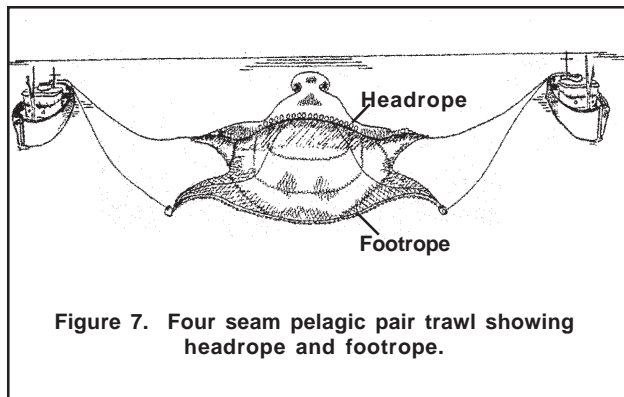

Figure 7. Four seam pelagic pair trawl showing headrope and footrope.
25. HEADROPE: Record, in whole feet, the length of the rope along the top of the net. This information may be obtained from the Captain. See Figure 7.
26. FOOTROPE/SWEEP: Record, in whole feet, the length of the rope along the bottom of the net. This information may be obtained from the Captain. See Figure 7.